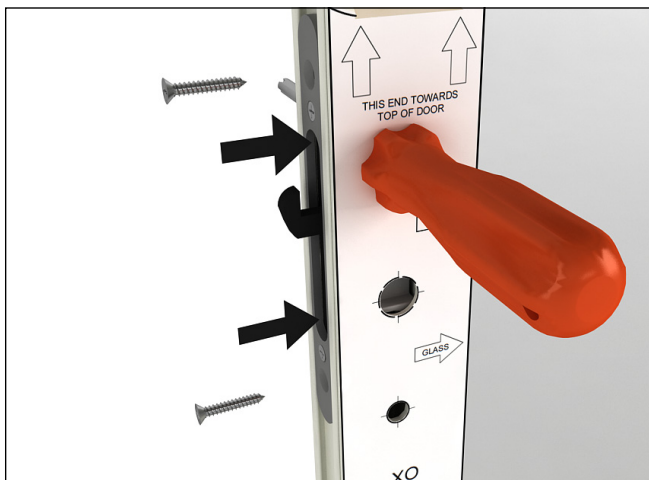

Figure 7
8. Reinstall the lock box and secure with the two Phillips screws removed in step 5. See figure 7.